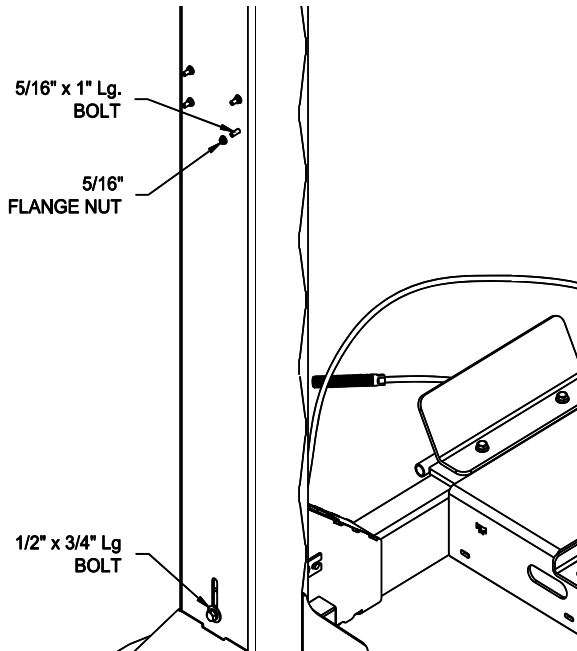

Fig 13 – Power Unit Mounting Bolts
- 26) **POWER COLUMN ONLY** – Thread the front power side locking ladder jam nut (located under the column top plate) down approximately 1/2". Remove 1/2" x 3/4" lg. lock ladder securing bolt from bottom of column and rock the ladder to one side to allow access to power unit mounting holes and insert two 5/16" x 1" flange head bolts from the inside out and secure with 5/16" flange nut, Fig 13. Shift ladder to opposite side and install remaining two power unit bolts. Reinstall lower ladder bolt.
- 33) Install the power unit and the air button valve assembly on the power column, **Figs 13 & 15**.